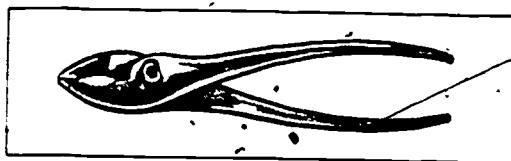

Figure 3-5 Slip-joint pliers
**Slip-joint pliers.** Combination slip-joint pliers, illustrated in figure 3-5, are used to hold round stock and hot metal. They are also used to cut and bend wire. Pliers should never be used to hold chromium, brass, or copper pipe and fittings, since they are likely to scratch the surfaces. Neither should pliers be used on nuts or bolt heads, because pliers round the corners on nuts or bolt heads so that a conventional wrench cannot get a firm grip. Never use pliers as a pry bar, because you will probably bend and break the handles. Keep the pliers clean and well oiled at the pivot pins.